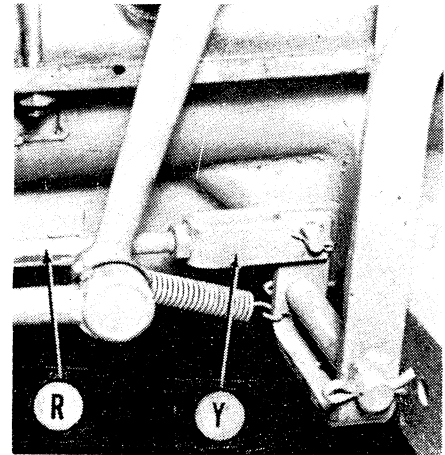

Fig. MH16—Pony clutch pedal adjustment. Turn yoke (Y) on rod (R) until pedal has one inch free travel.
41. **ADJUST.** To adjust the clutch pedal travel, refer to Fig. MH16 and adjust yoke (Y) on rod (R) until clutch pedal has a free travel of approximately one inch.